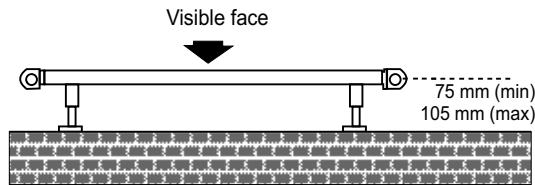

Figure 5
- 5** The connection of radiator to the installation shall be made from the bottom ends, using the inlet and return valves (Figure 3a). The distance between the center line of radiator connection place and the wall should be min. 75 mm (Figure 5).